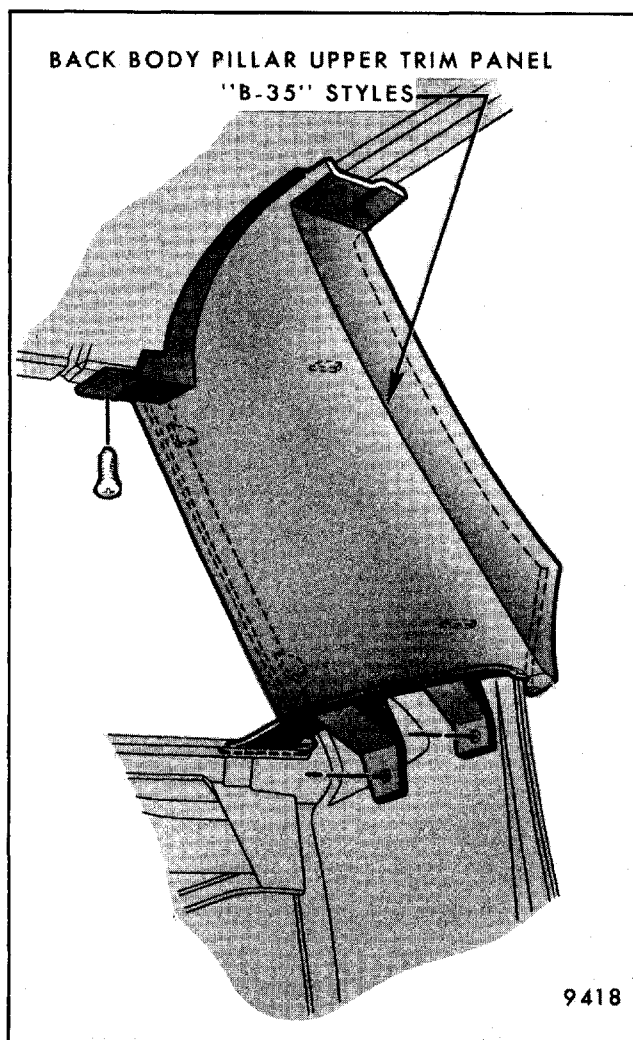

Fig. 6-24 - Back Body Pillar Upper Trim Panel - "B-35" Styles
3. Remove one upper attaching screw and two lower attaching screws (Fig. 6-24).